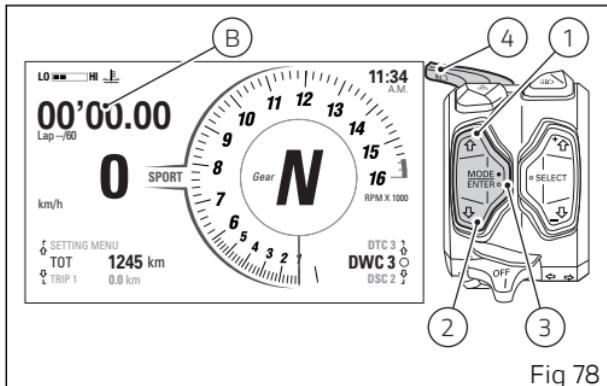
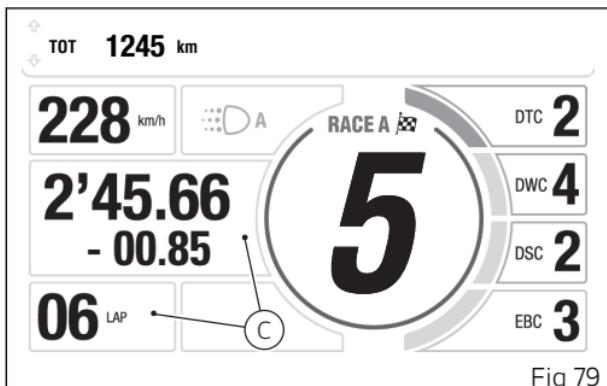

Fig 78
Fig 79
Here are the screens for Track Info Mode (B, Fig 78) and Track Evo Info Mode (C, Fig 79). If there is no GPS module on the motorcycle, timer can be started and stopped by pressing the FLASH button (4) after activating the function:
- when pressing the FLASH button (4) once, both timer (that starts) and lap number (which will become "Lap 01") will flash for 1 second;